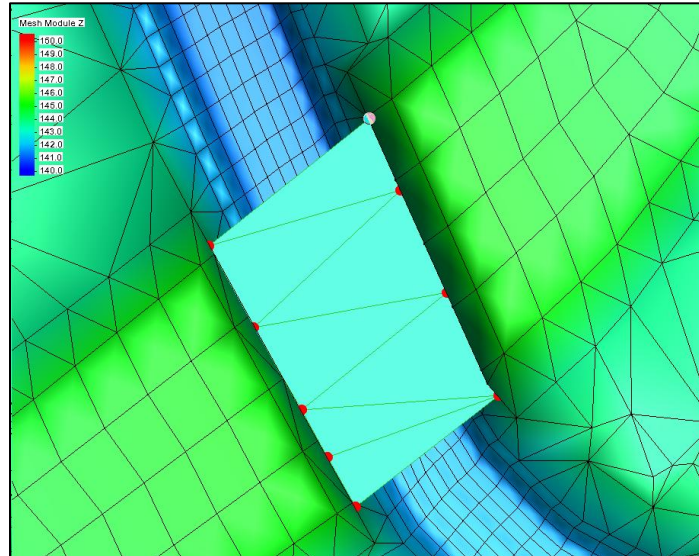

Figure 5 Multiple points on right bank of channel
9. Click a few more points along the line of the channel bank as shown in Figure 5.